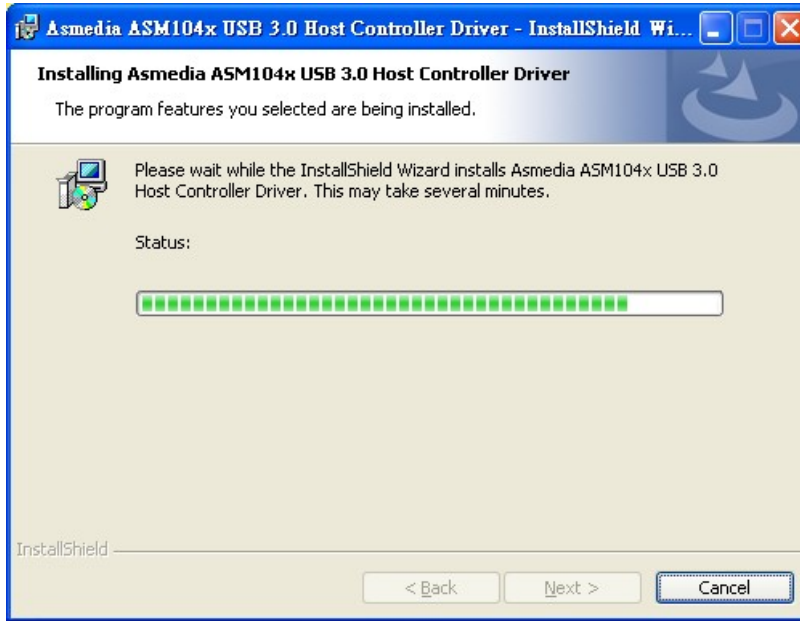

Figure 6-33: USB 3.0 Driver Installation Screen
Step 8: The Install screen appears and displays the progress of the installation (Figure 6-33).